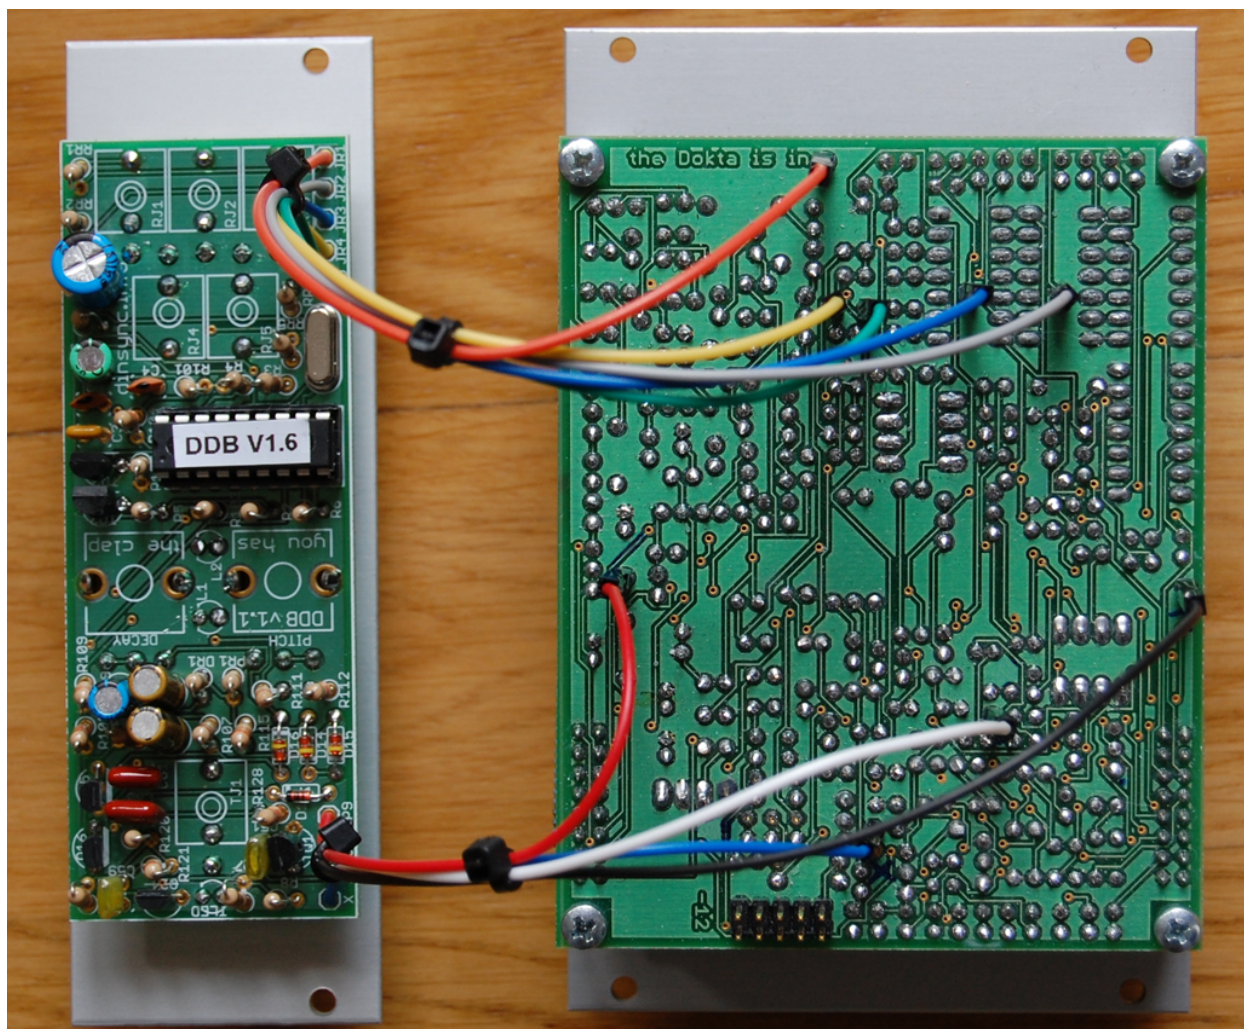

FIGURE 1: Installing the DDB flying wires.
- 5: Refer to **figure 1** and **figure 2** to connect the wires correctly. The top group of 5 wires are for the raw output section and the bottom group of 4 wires are the power and clap section. It doesn't matter in which order they are connected but I would recommend you connect the power section first. Please note that there is an unused pin on the rear of the DrumDokta, refer to **figure 2**.